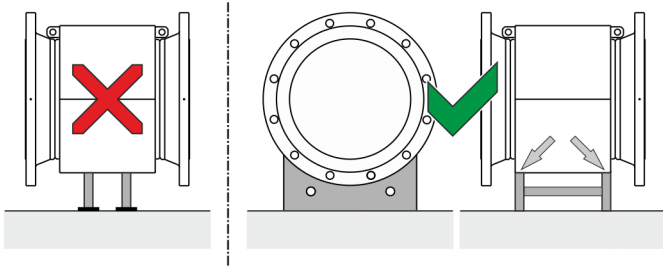

Figure 5: Support for nominal diameters greater than DN 400
- Place the supports at the edge of the sensor housing (see arrows in Figure 5).